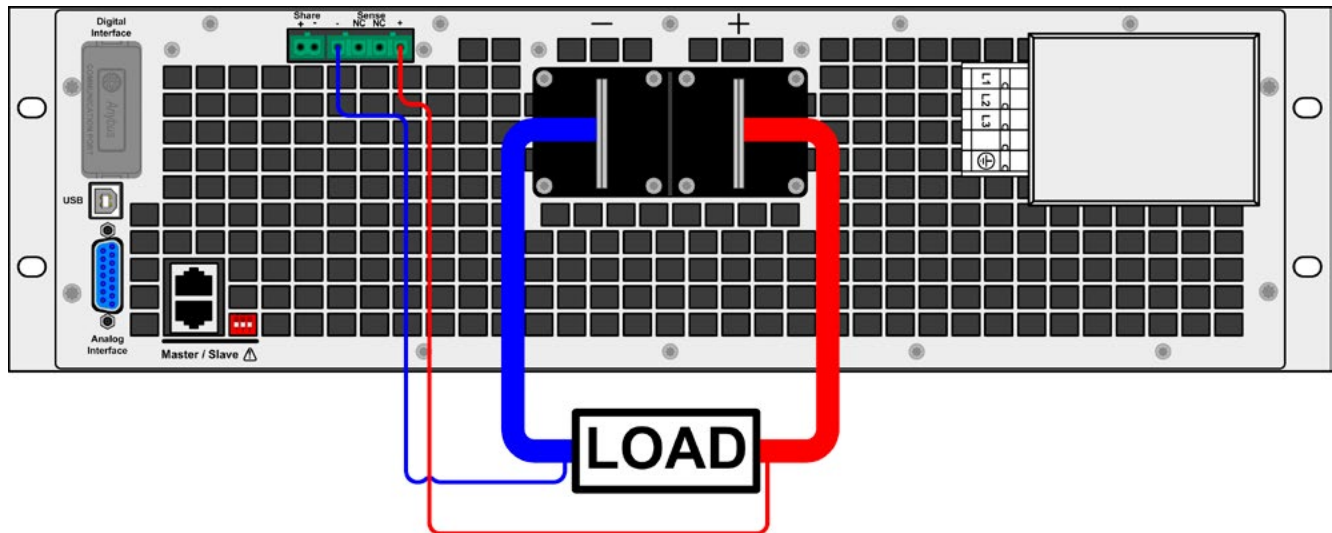

Figure 8 - Example for remote sensing wiring
- The + sense cables must be connected to + on the load and - sense to - at the load, otherwise the sense input of the power supply can be damaged. For an example see *Figure 8* below.